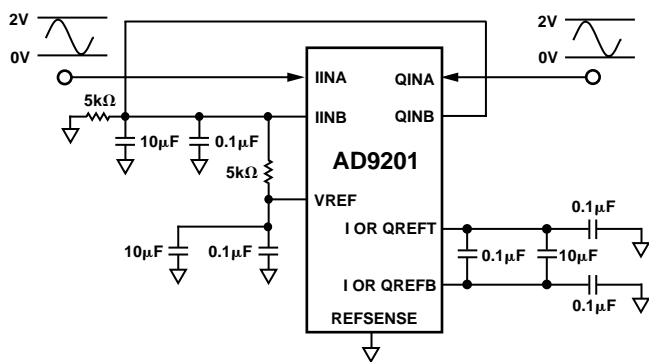

Figure 23. 0 V to 2 V Input
**2 V Mode (Figure 23)**—provides a 2 V reference and 2 V input full scale. Recommended for noise sensitive applications on 5 V supplies. The part is placed in 2 V reference mode by grounding (shorting to AVSS) the REFSENSE pin.